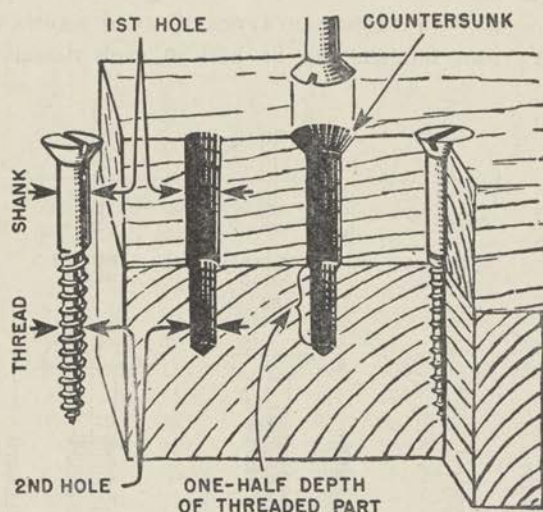

FIGURE 25.—Holes for screwing two pieces of wood together.
(2) To screw two pieces of wood together (fig. 25)—